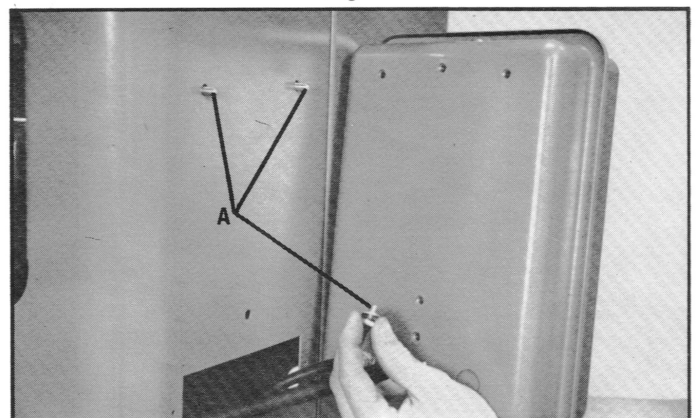

Fig. 2
The Unisaw is shipped with the starter box completely wired to the switch and motor but is not mounted to the saw cabinet. Assemble the starter box to the rear of the saw cabinet as shown in Fig. 2, using the three 1/4-20 X 1/2" hex head screws (A) lockwashers and flat washers.